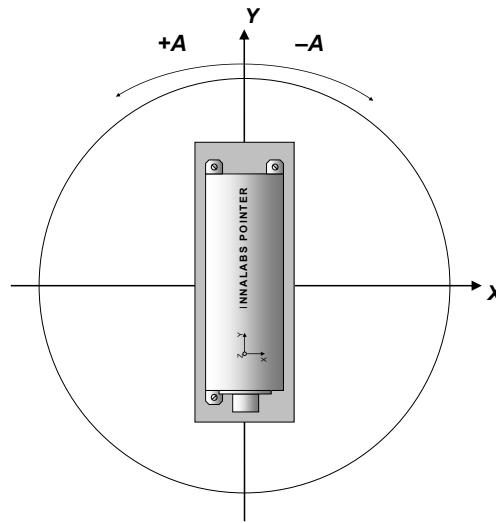
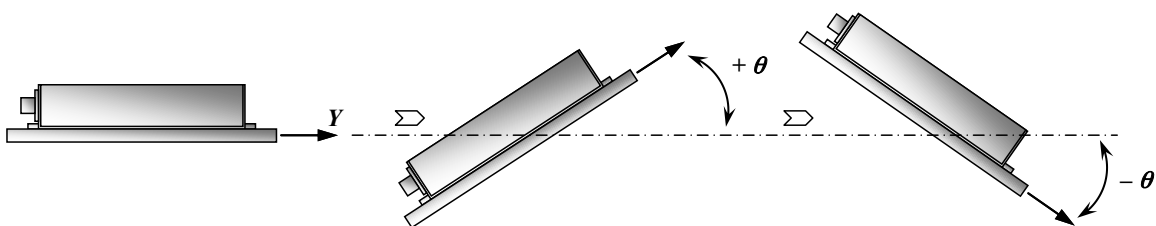

Fig. 1: Rotation of the carrier with OptoAHRS in horizontal plane
Fig. 3: Rotation of the carrier with OptoAHRS in pitch
**2D calibration** is designed for carrier objects that move with small pitch and roll angles (not more than a few degrees). The calibration procedure involves a few full 360° rotations in the horizon plane of the carrier object with the installed OptoAHRS (see Fig. 1 below). During this calibration pitch and roll angles must be as close to zero as possible.
For **3D calibration** the carrier object is rotated in the horizon plane (the Z-axis is up) with periodical stops about each 90 degrees for tilting in pitch and roll (see Fig. 1 - Fig. 3 below). After full 360° rotation the object with the OptoAHRS is turned over (the Z-axis is down) and the procedure described above should be repeated. During this calibration the range of pitch and roll angles changing must be as much as possible.